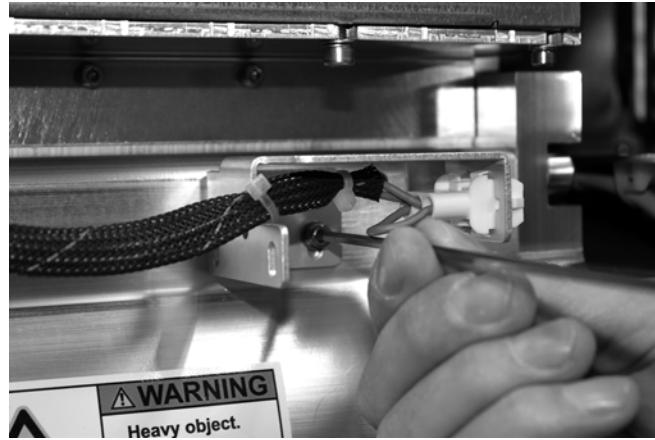

Figure 36: Removing the overtemperature switch connector bracket
3. Use the 3 mm allen key to unscrew and remove the connector holding bracket (see Figure 36).